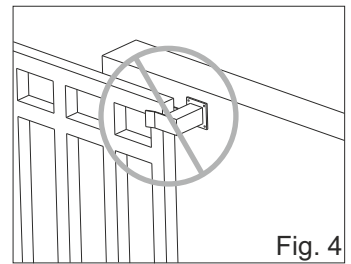

Fig. 4
- c) That the upper guides are not fixed (fig. 4) but furnished with rollers